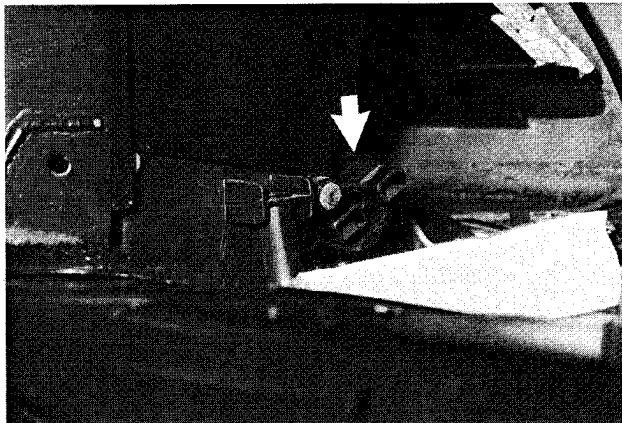

Fig. 53. A/C microfilter cover release knob (arrow) on passenger side of heater box.
- 4. Rotate A/C microfilter housing release knob about 45° counterclockwise and remove filter housing cover. See Fig. 53.